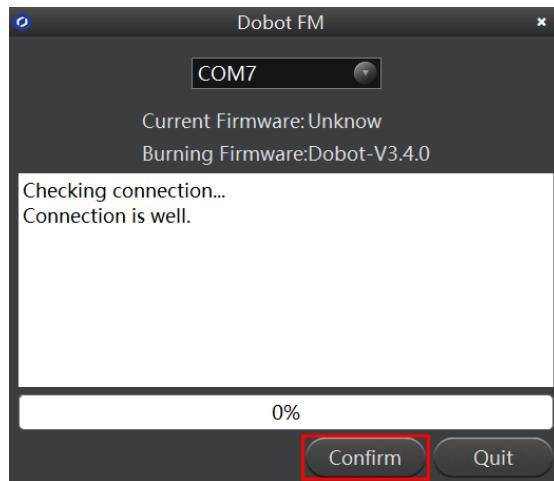
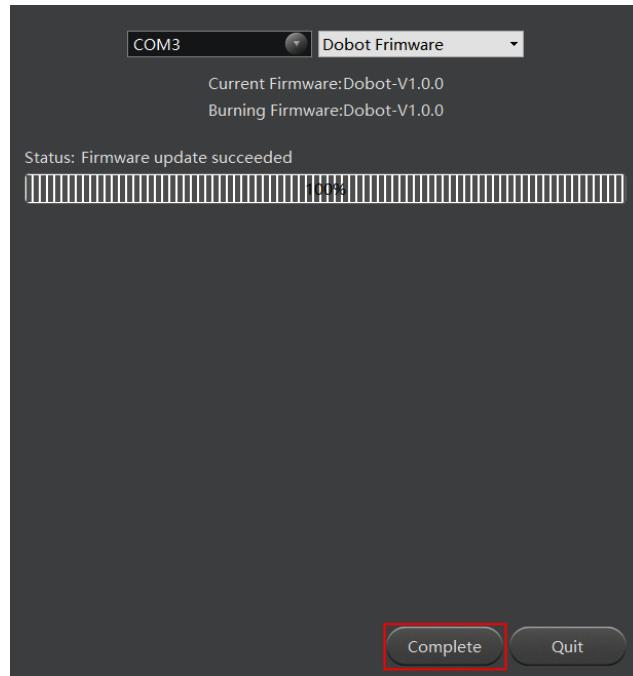

Figure 5.54 Click **Confirm**
Figure 5.55 The firmware upgrade is successful
3. Click **Confirm** to upgrade the Dobot firmware, as shown in Figure 5.54. When the upgrade process bar shows 100% and a short beep sound is heard, it means that the firmware is upgraded successfully, as shown in Figure 5.55. In this case, the LED indicator turns from red to green. Then click **Complete** to exit.